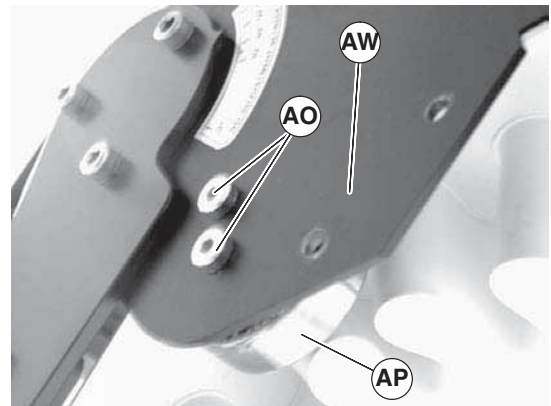

Figure 29
- Install knuckle guard (Figure 29, item AN) on both sides of knuckle with screws (AM). Tighten screws to 25 in-lbs (3 N-m).